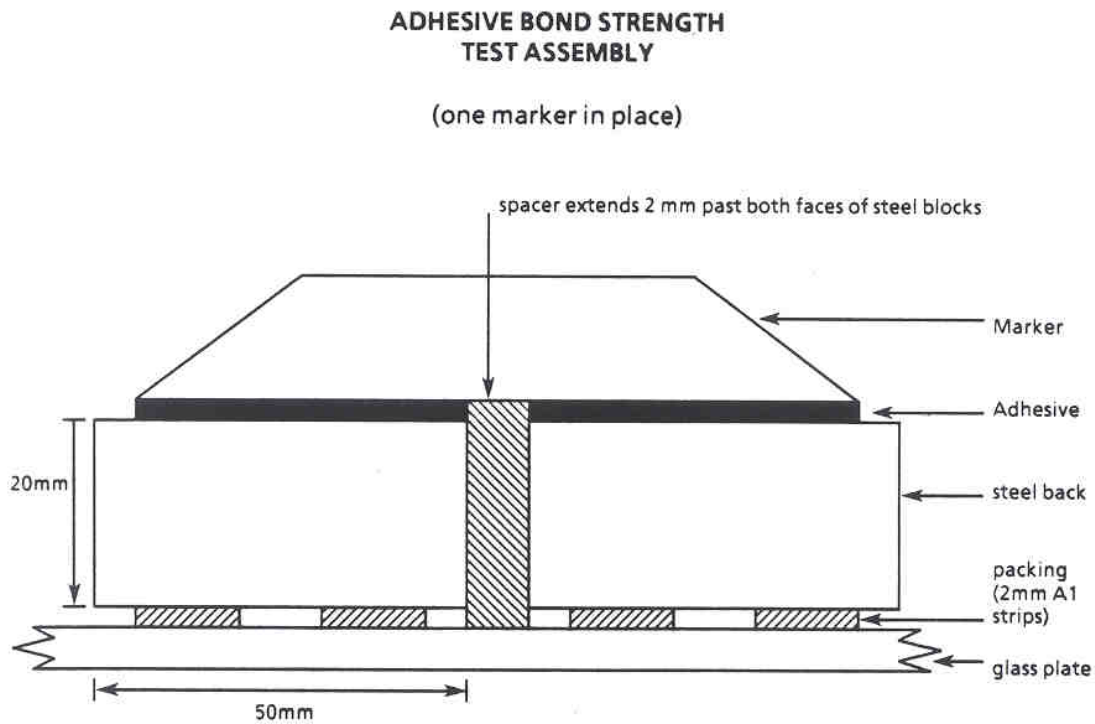

Figure 1
- (c) Set up the steel blocks as shown in Figure 1.